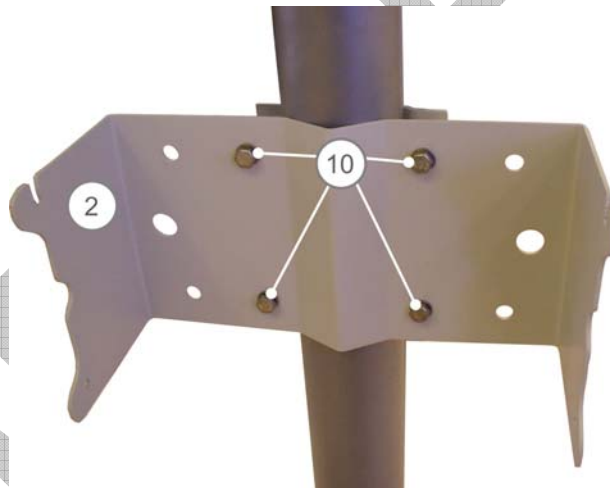

Figure 17: Pole Mounting – Inserting the four 3/8" Screws
- a. Hold the main bracket with the grooves facing up, and insert the four 3/8" screws (10) through the four holes indicated in Figure 17.
- b. Place the main bracket on the pole as shown in Figure 17 at the desired height, and place the pole mount hanging bracket on the other side of the pole. The holes in the pole mount hanging bracket will line up with the ends of the 3/8" screws (10).